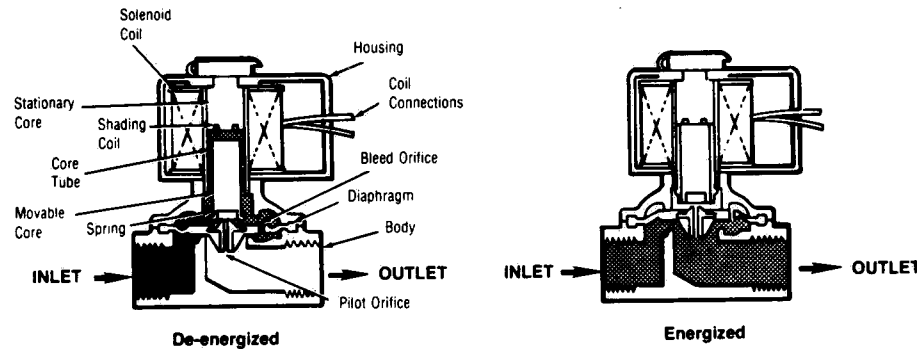

Figure 7-3. INTERNAL PILOT-OPERATED SOLENOID VALVE (DIAPHRAGM TYPE)
**Internal pilot-operated Valve (Fig. 7-3 or 7-3A):** This valve has a pilot, a bleed orifice, and utilizes the line pressure for operation. When the solenoid is energized, it opens the pilot orifice and releases pressure from the top of the valve piston or diaphragm to the outlet side of the valve.